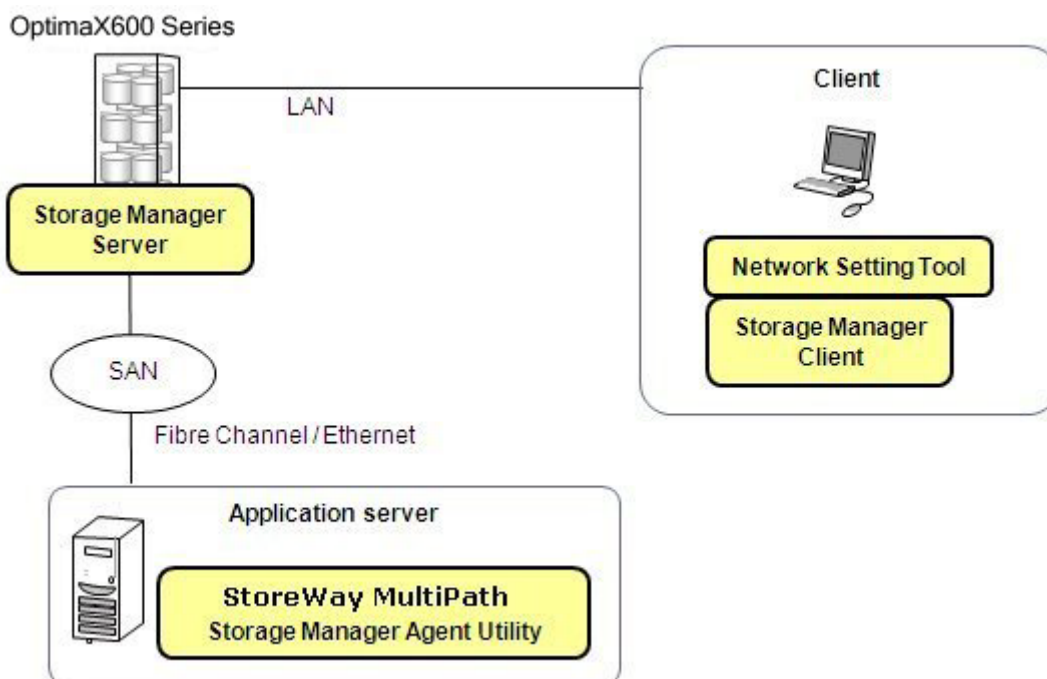

Figure 1: Example of Recommended Configuration
- Supported configurations: Storage Area Network (SAN) configurations and Direct Attached Storage (DAS) configurations including a recommended configuration shown in Figure 1: Example of Recommended Configuration.